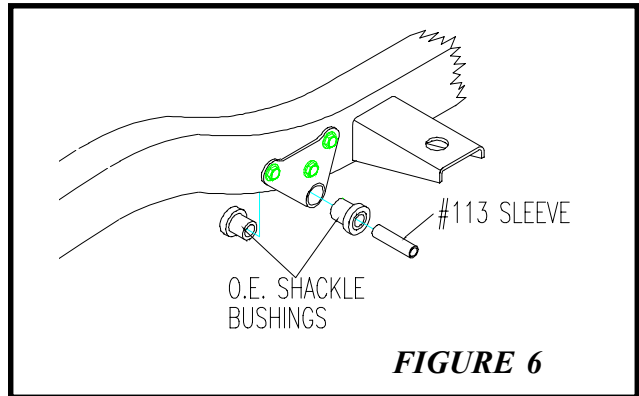

FIGURE 6
- 1. Install the four OE shackle bushings that were removed previously, into the rear mount brackets as shown in **figure 6**.
- 2. Install (1) .75 O.D. X 3.355 long sleeve into each of the rear mount bushings as shown in **figure 6**.